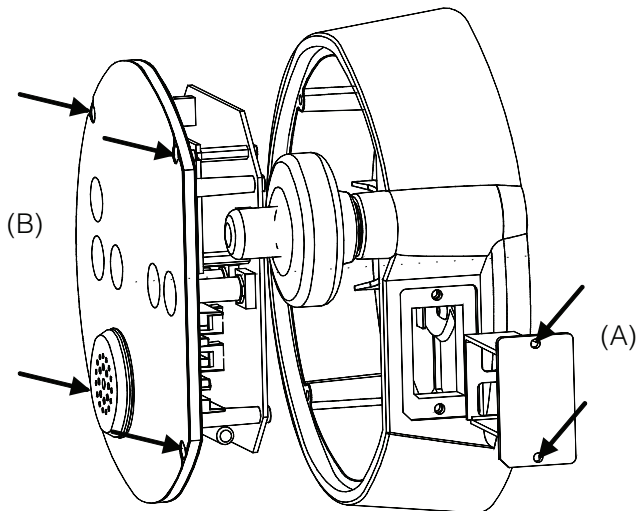

Figure 10-5
- Unscrew with the 2.5 Allen key the 2 screws (A) of the battery holder and pull it out as shown on Figure 10-5.
- Unscrew with the 2.5 Allen key the 4 screws (B) of the display unit and pull it gently out as shown on Figure 10-5.